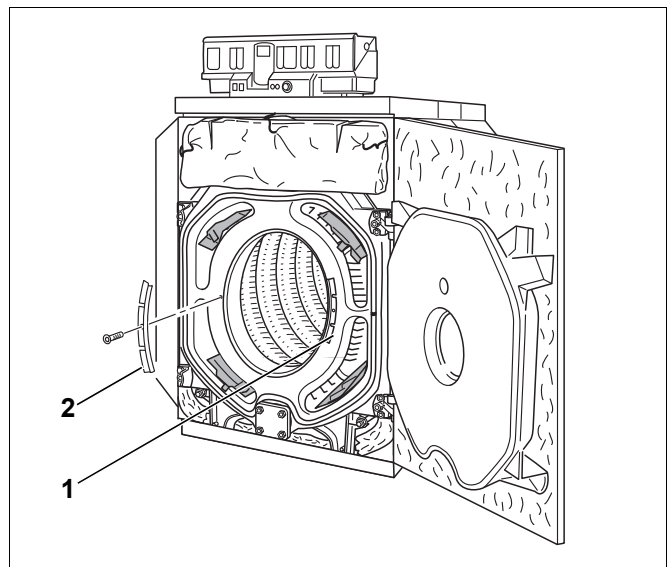
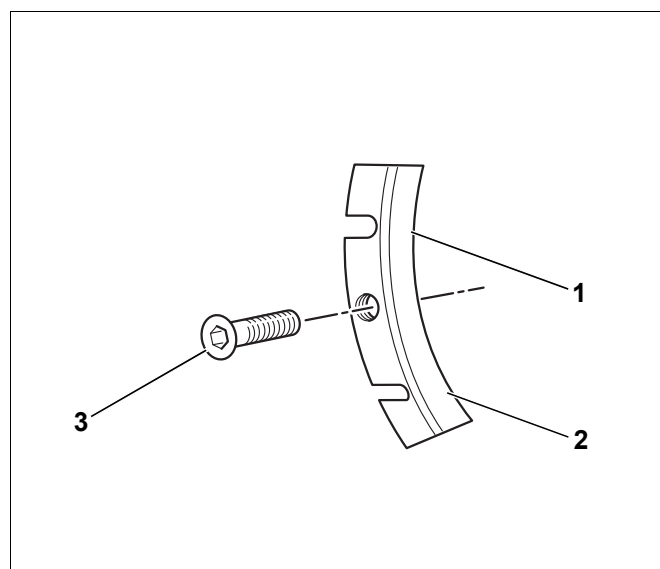

Fig. 68 Location of the hot gas check plates
Fig. 69 Hot gas check plate
- Remove the Allen screws inside each hot gas check plate and remove the l.h. and r.h. hot gas check plates (Fig. 68, **[1]** and **[2]**).
- Remove the Allen screw (Fig. 69, **[3]**) inside each hot gas check plate and remove the l.h. and r.h. hot gas check plates (Fig. 68, **[1]** and **[2]**).
- Position the hot gas check plate onto the support, so that the notches (Fig. 69, **[1]** and **[2]**) are hollow to the bottom. With a hammer knock one segment each off the l.h. and r.h. hot gas check plate.